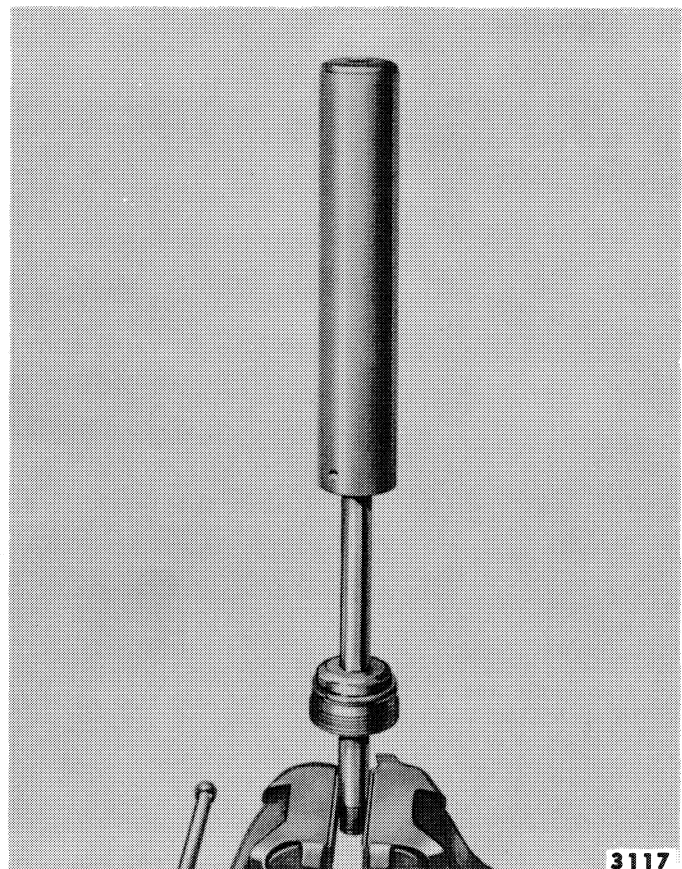

Figure 16—Assembling Inner Tube to Piston and Rod
12. Clamp the flats at the threaded end of the rod in a vise, Figure 16. Make sure the vise does not grip the threads.